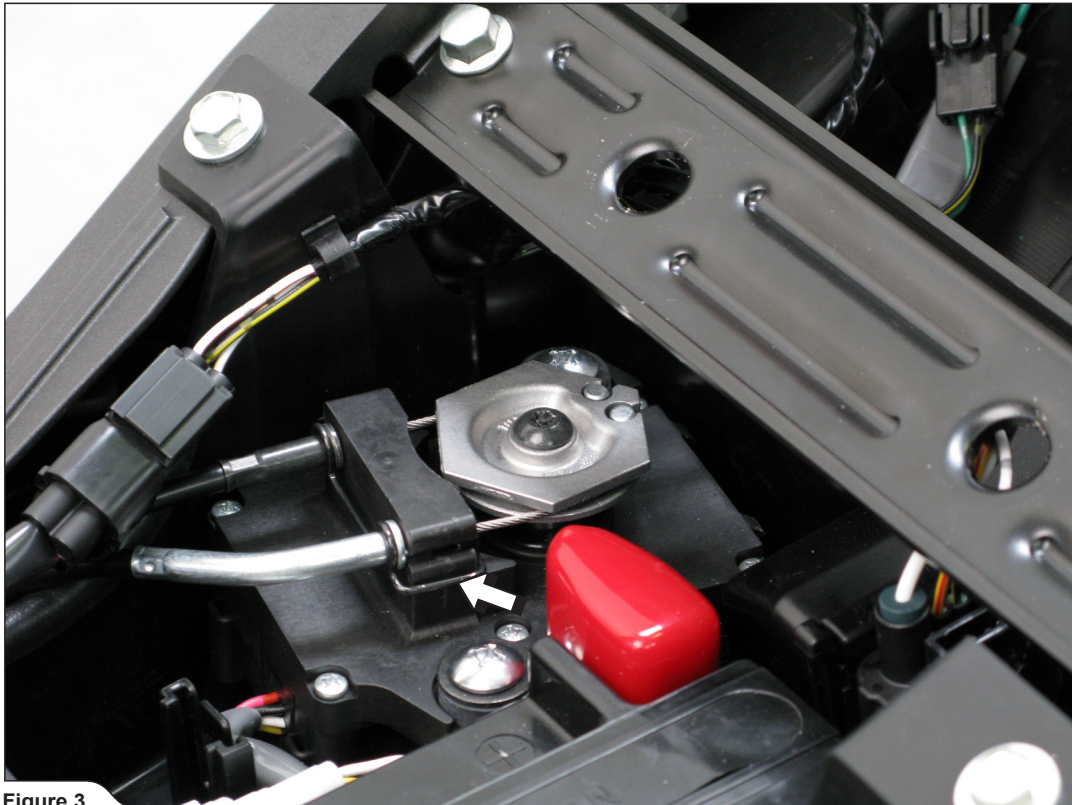

Figure 3
4. Undo the safety pin and remove the exhaust valve cables off the servo motor (Figure 3, 4).